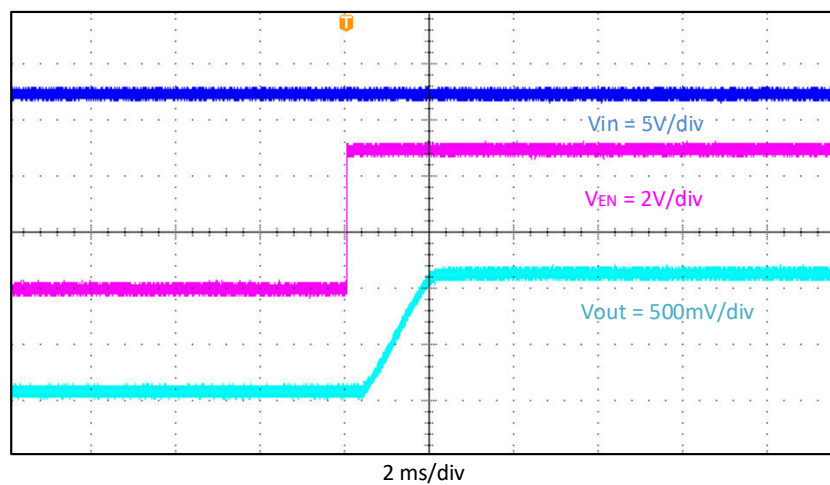

Figure 4-3. Start-Up Relative to EN, $I_{OUT} = 2\text{ A}$
The TPS562202EVM start-up waveform relative to enable (EN) is shown in Figure 4-3.